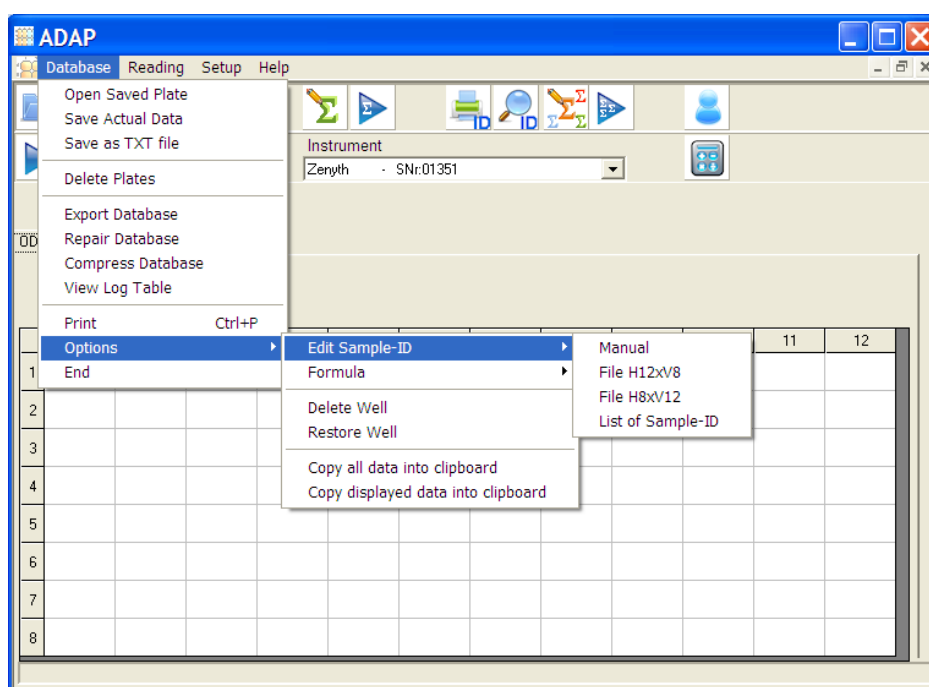

Figure 10-6: Edit Sample-ID
2. From the Options menu, choose **Edit Sample-ID>Manual** (Figure 10-6).